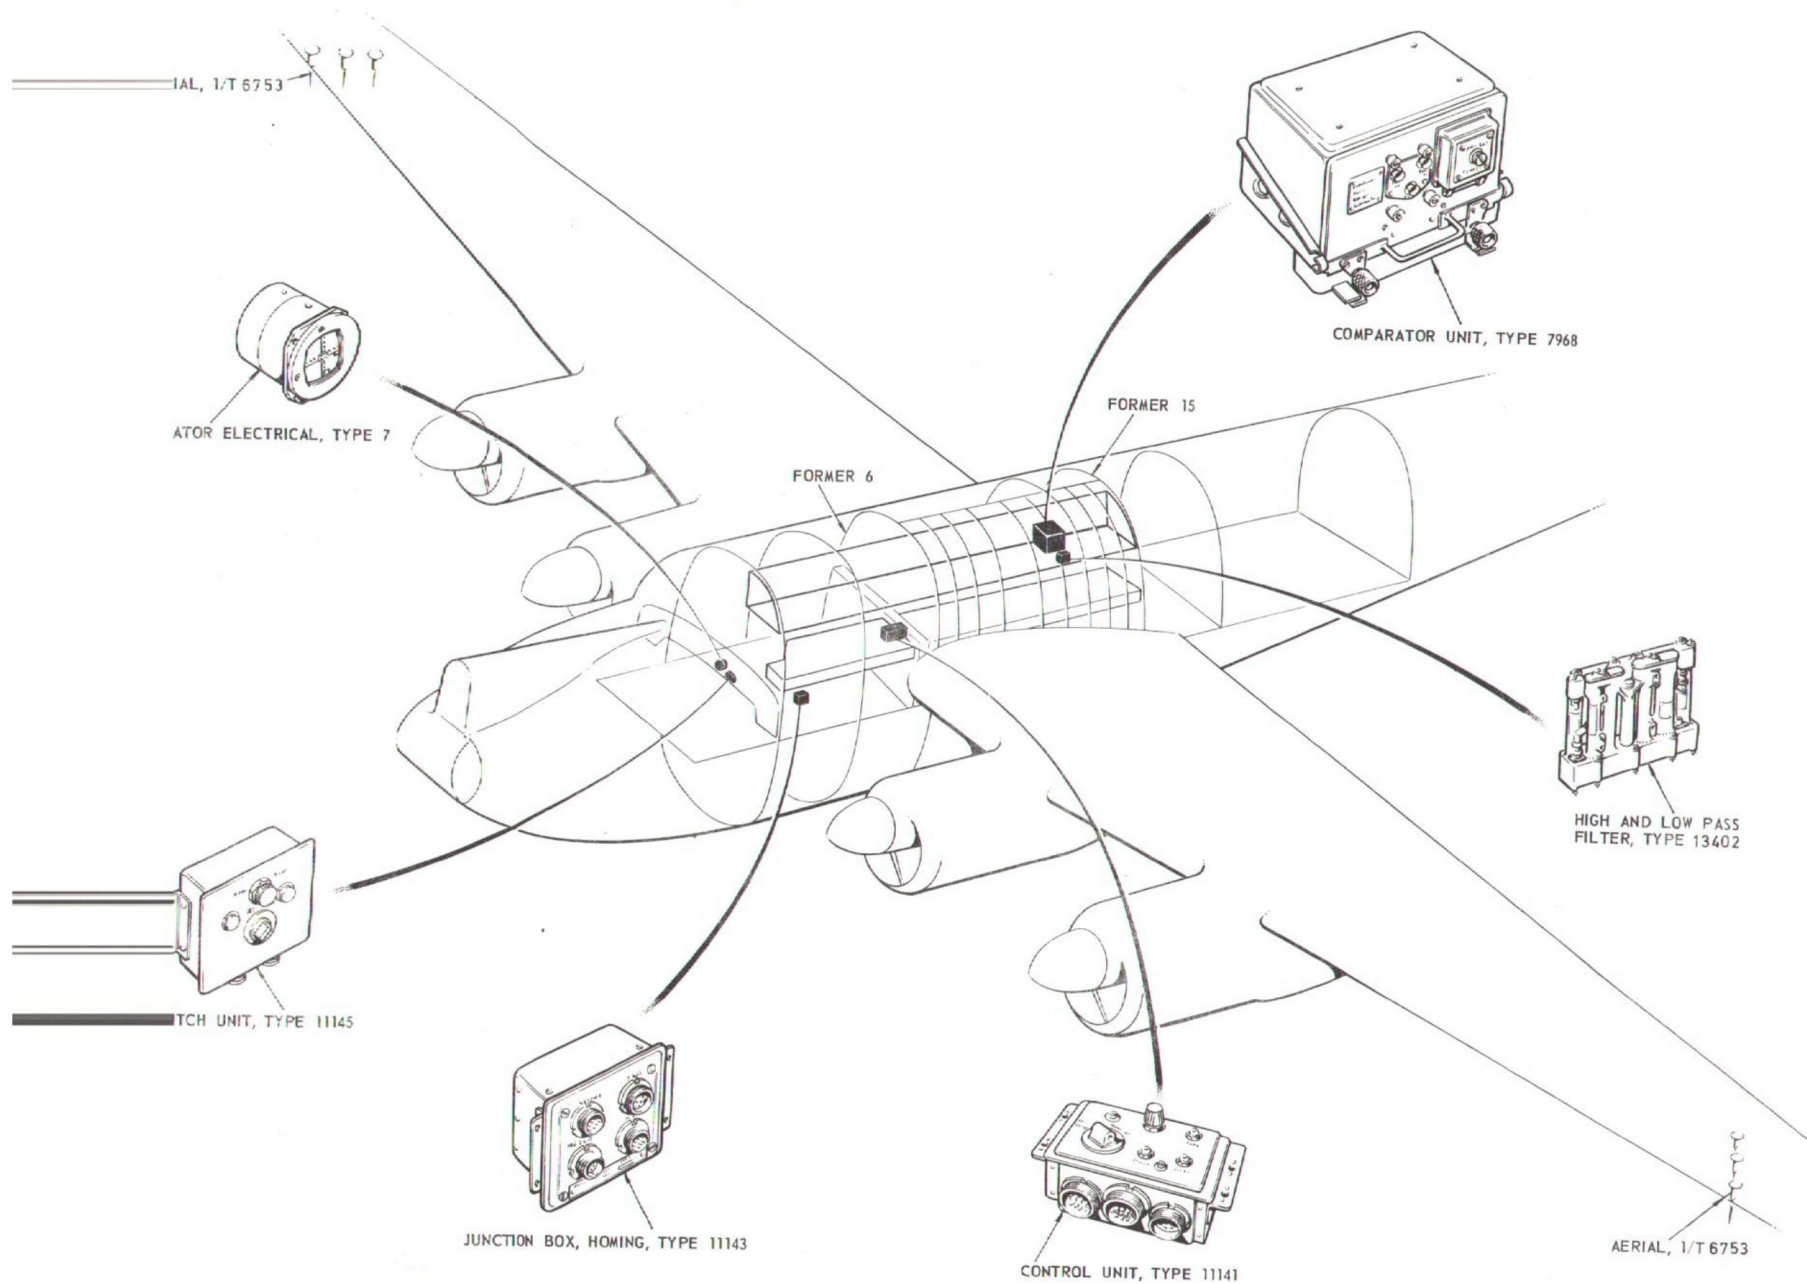

Fig.1. Location of equipment
2. Full information on the A.R.I. 18101 and 18157 is contained in the publication quoted in Table 1, but a brief description of the various units is contained in the following paras. Installation details are shown in fig. 1.